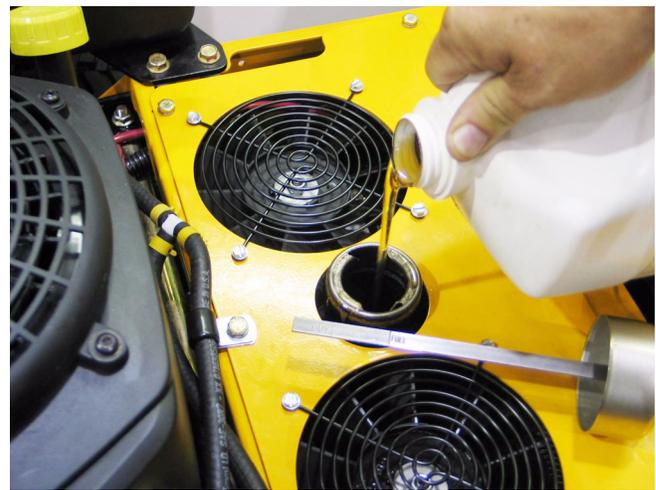

Figure 24.17
24.17. Top-up the hydraulic fluid to make up for any fluid that was lost during gauge set installation. See Figure 24.17.